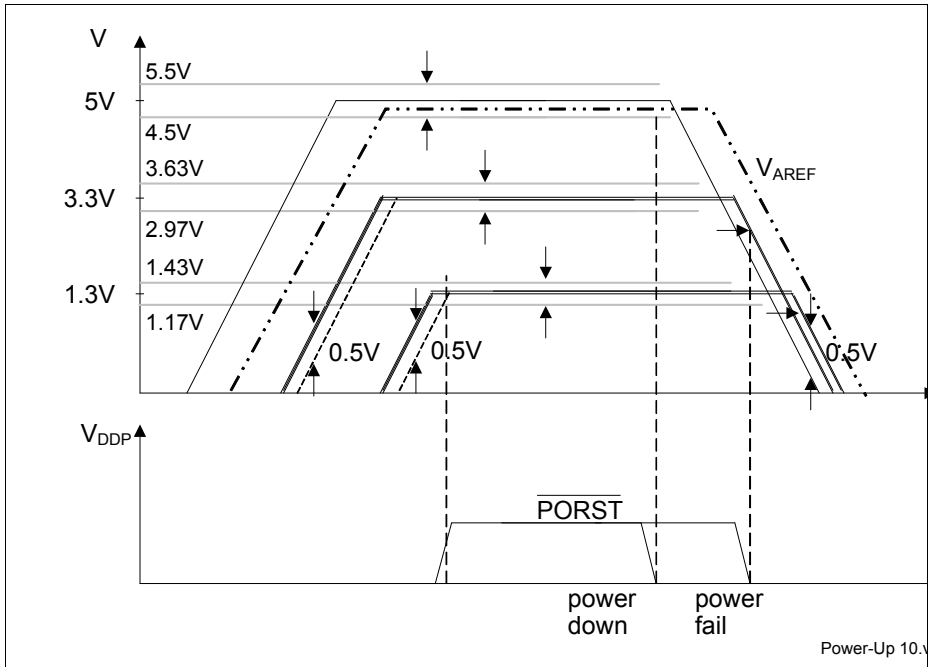

Figure 11 5 V / 3.3 V / 1.3 V Power-Up/Down Sequence
- At any moment in time to avoid increased latch-up risk, each power supply must be higher than any lower_power_supply - 0.5 V, or: $VDD5 > VDDP - 0.5 V$; $VDD5 > VDD - 0.5 V$; $VDDP > VDD - 0.5 V$, see Figure 11.